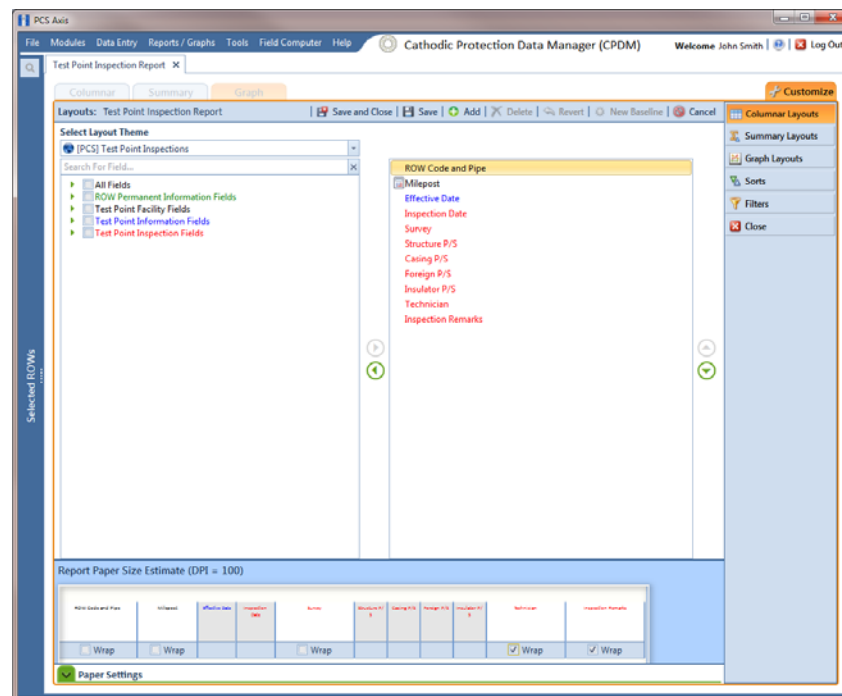

Figure 15-30. Layouts
- 3 Click the **Customize** tab  then the **Columnar Layouts** button  to open the *Layouts* page (Figure 15-30).